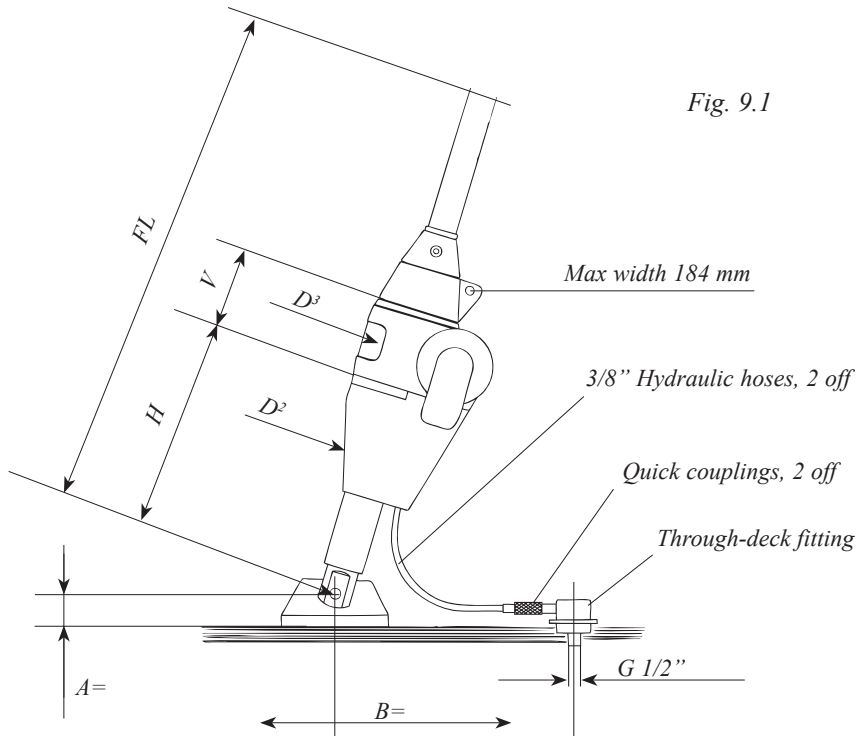

Fig. 9.1
3. Check that the drive unit goes free of the pulpit, bow anchor, or other deck equipment. (See fig. 9.1 and the table).